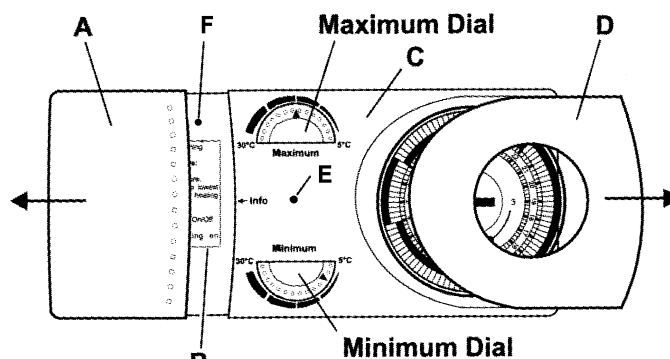

Fig. 5
5. User Instructions - see Fig. 5
Maximum setting - Rotate the Maximum dial (see Fig. 5) to give the required room temperature upto 30°C when heating is on. Minimum setting - Rotate the Minimum dial (see Fig. 5) to a lower temperature down to 5°C to ensure that when the heating is off a minimum room temperature is maintained.